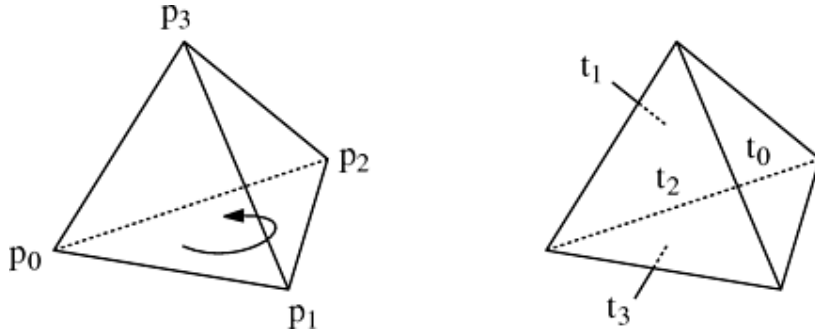

Figure 20.14: Numbering of points in a tetrahedron with positive volume (left). Numbering of the corresponding triangles (right).
- The `tetras` array describes the actual tetrahedra. For each tetrahedron, the indices of the four points and the indices of the four triangles it consists of are stored. The numbering of the points and triangles is shown in Figure 20.14. In particular, the fourth point is located above of the triangle defined by the first three points. Triangle number i is located opposite to point number i .